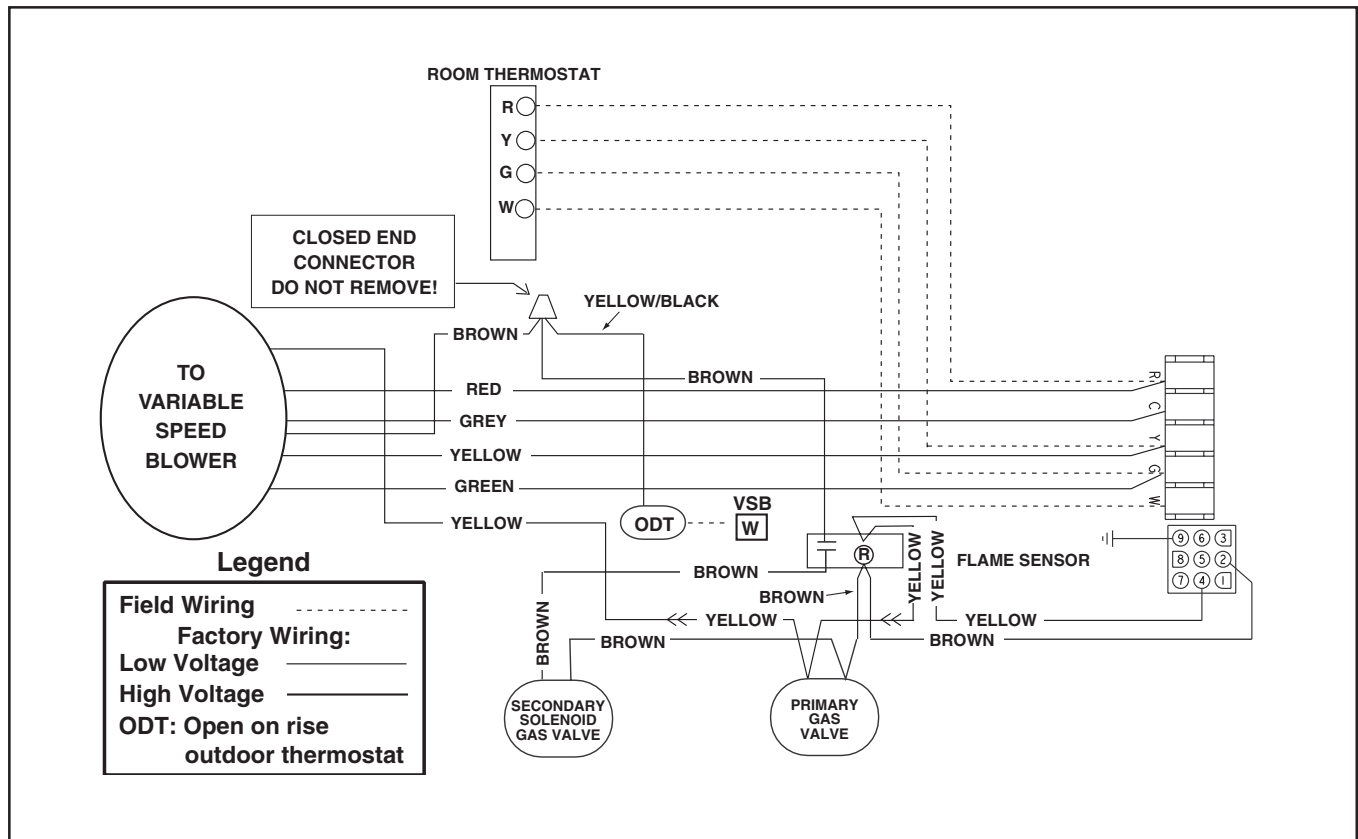

Figure 8d. Outdoor Ambient Dependent
4. *Outdoor ambient dependent configuration* – For this installation, the primary and secondary gas valves are connected in parallel with an outdoor thermostat (open on rise style) in series with the secondary gas valve (See **Figure 8d**). **CAUTION: DO NOT CONNECT W2** from thermostat to the furnace wiring when using the outdoor ambient dependent configuration. When the outdoor temperature is above the set point, the outdoor thermostat opens keeping the secondary gas valve closed. The furnace operates in the low fire mode at a lower blower speed. When the outdoor thermostat closes, the secondary gas valve opens with the primary gas valve and the furnace operates in the high fire mode at higher blower speed.